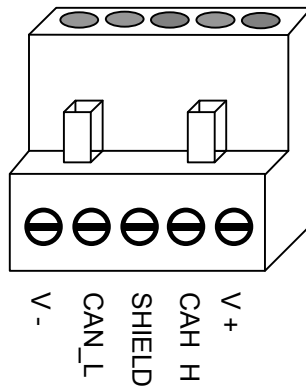

Figure 1: DeviceNet Network Wiring Connections
6. Connect the DeviceNet network cable to the pluggable “Network” terminal block located on the bottom of the unit. Refer to Figure 1 for specific connector positions. Be sure to follow all cabling, grounding and termination requirements as outlined in the ODVA DeviceNet Specifications. Ensure that the network cable wires are tightly screwed into the terminal block, and route the cable such that it is located well away from any drive input power or motor wiring. Also take care to route the cable away from any sharp edges or positions where it may be pinched.